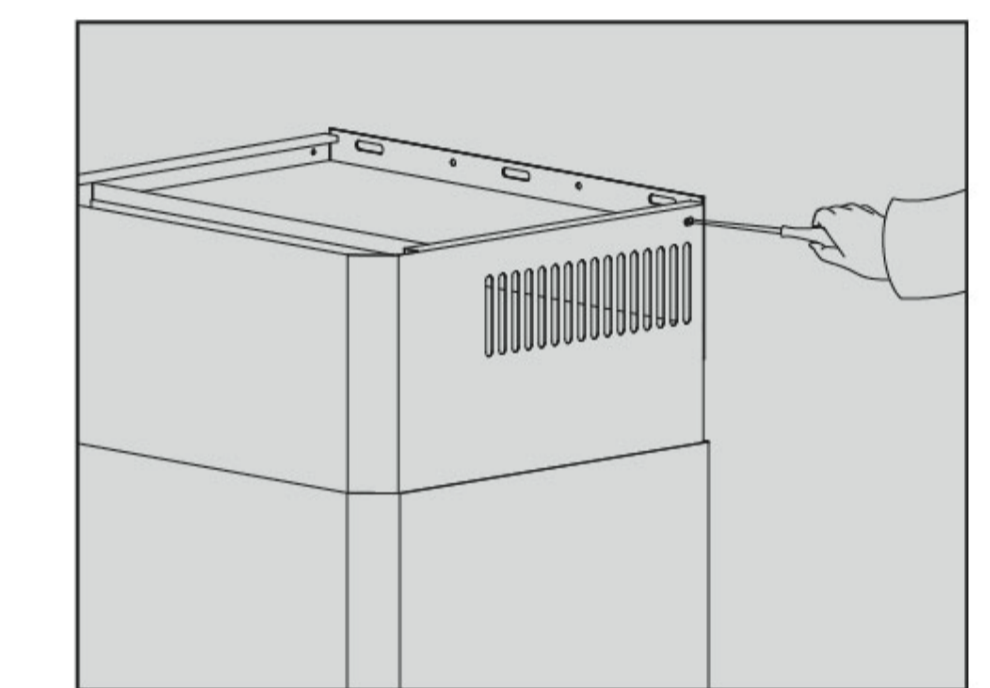

Fig.8
3. Remove the toe screws on both sides of the decorative cover, then remove the motor cover and decorative cover; (Fig. 8)